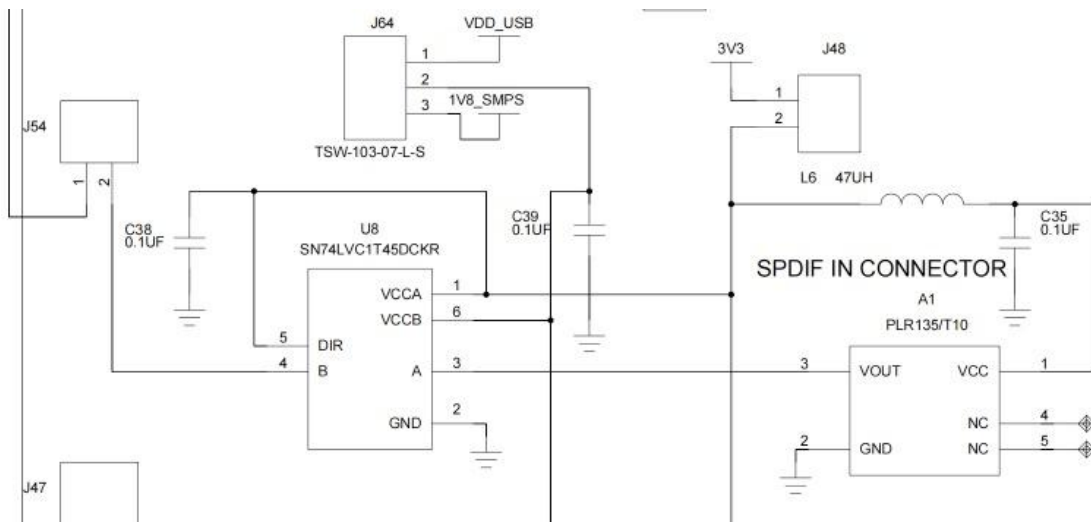

Figure 8: Example Circuit for SPDIF In Connector
- A 75Ω coaxial cable with an RCA connector, see Figure 8.